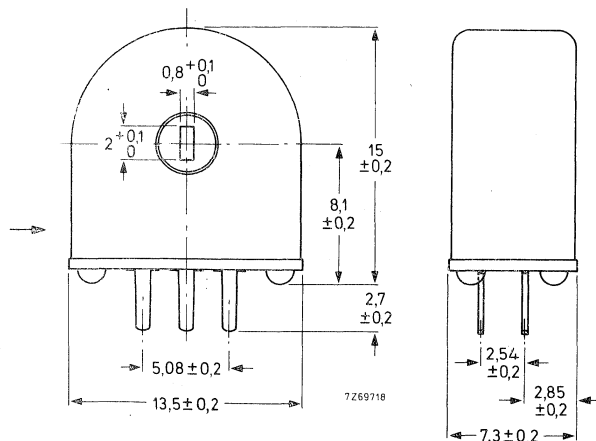

Fig. 2b. Dust-covered version of potentiometer for vertical mounting.
- 31 = dust-covered version of potentiometer for vertical mounting (Fig. 2b)